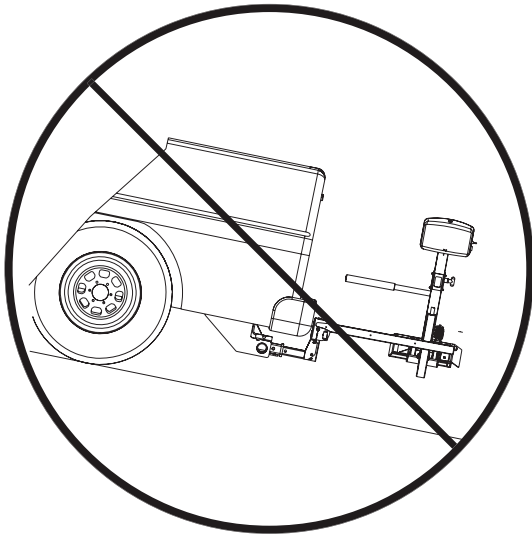

Figure 3-8
**ONLY** open the Swing-Away on level ground. Failure to open the Swing-Away on level ground may result in losing control of the lift, resulting in personal injury or damage to property. See Figure 3-8.